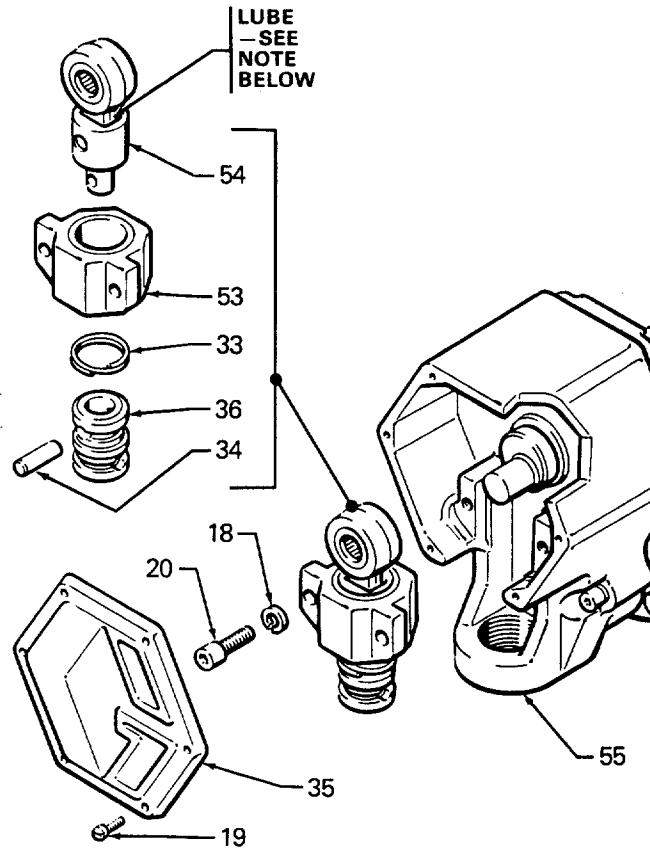

Fig 5
Remove pump as described on page 4. Remove the 6 screws (19) and cover (35). Remove the 2 screws and lockwashers (20 and 18). Remove bearing (53) and connecting rod (54), sliding connecting rod off of crankshaft. See Fig 5.